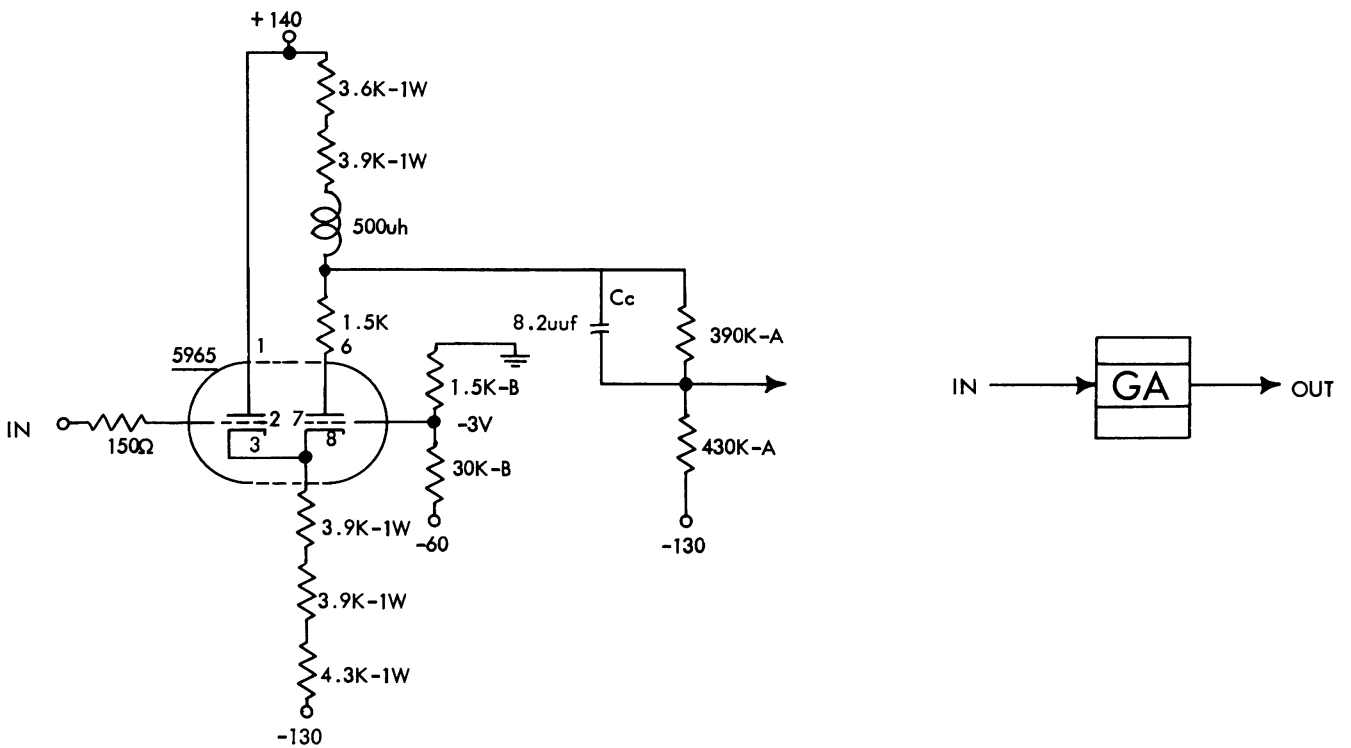

FIGURE C43. STANDARD GROUNDED GRID AMPLIFIER -- GA
The grounded grid amplifier (GA) (Figure C43) is similar to the grounded grid amplifier GAF (section 2.10.00, Book A). The principal difference is the tapped plate connection in the GA. The different connection causes the divider output to vary from +10 to -30 volts rather than from +10 to -38 volts. In all other considerations, the two circuits are alike.